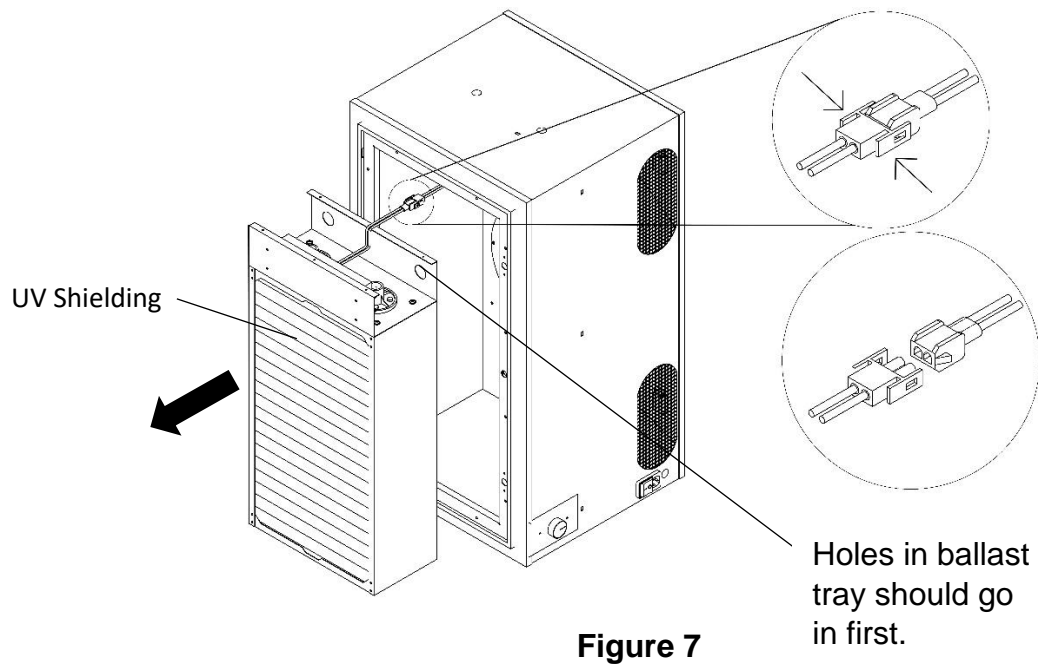

Figure 7
4.) Remove catalyst panel. See Figure 7.
5.) Disconnect 2 pin MOLEX connector providing power to catalyst panel. See Figure 7.
13.) Reconnect 2 pin MOLEX connector providing power to catalyst panel. See Figure 7.
14.) Reinsert catalyst panel. Ensure that arrows on catalyst panel match the direction of air flow. See Figure 7.
11.) Reconnect 2 pin MOLEX connector providing power to catalyst panel. See Figure 7.
See Figure 7.